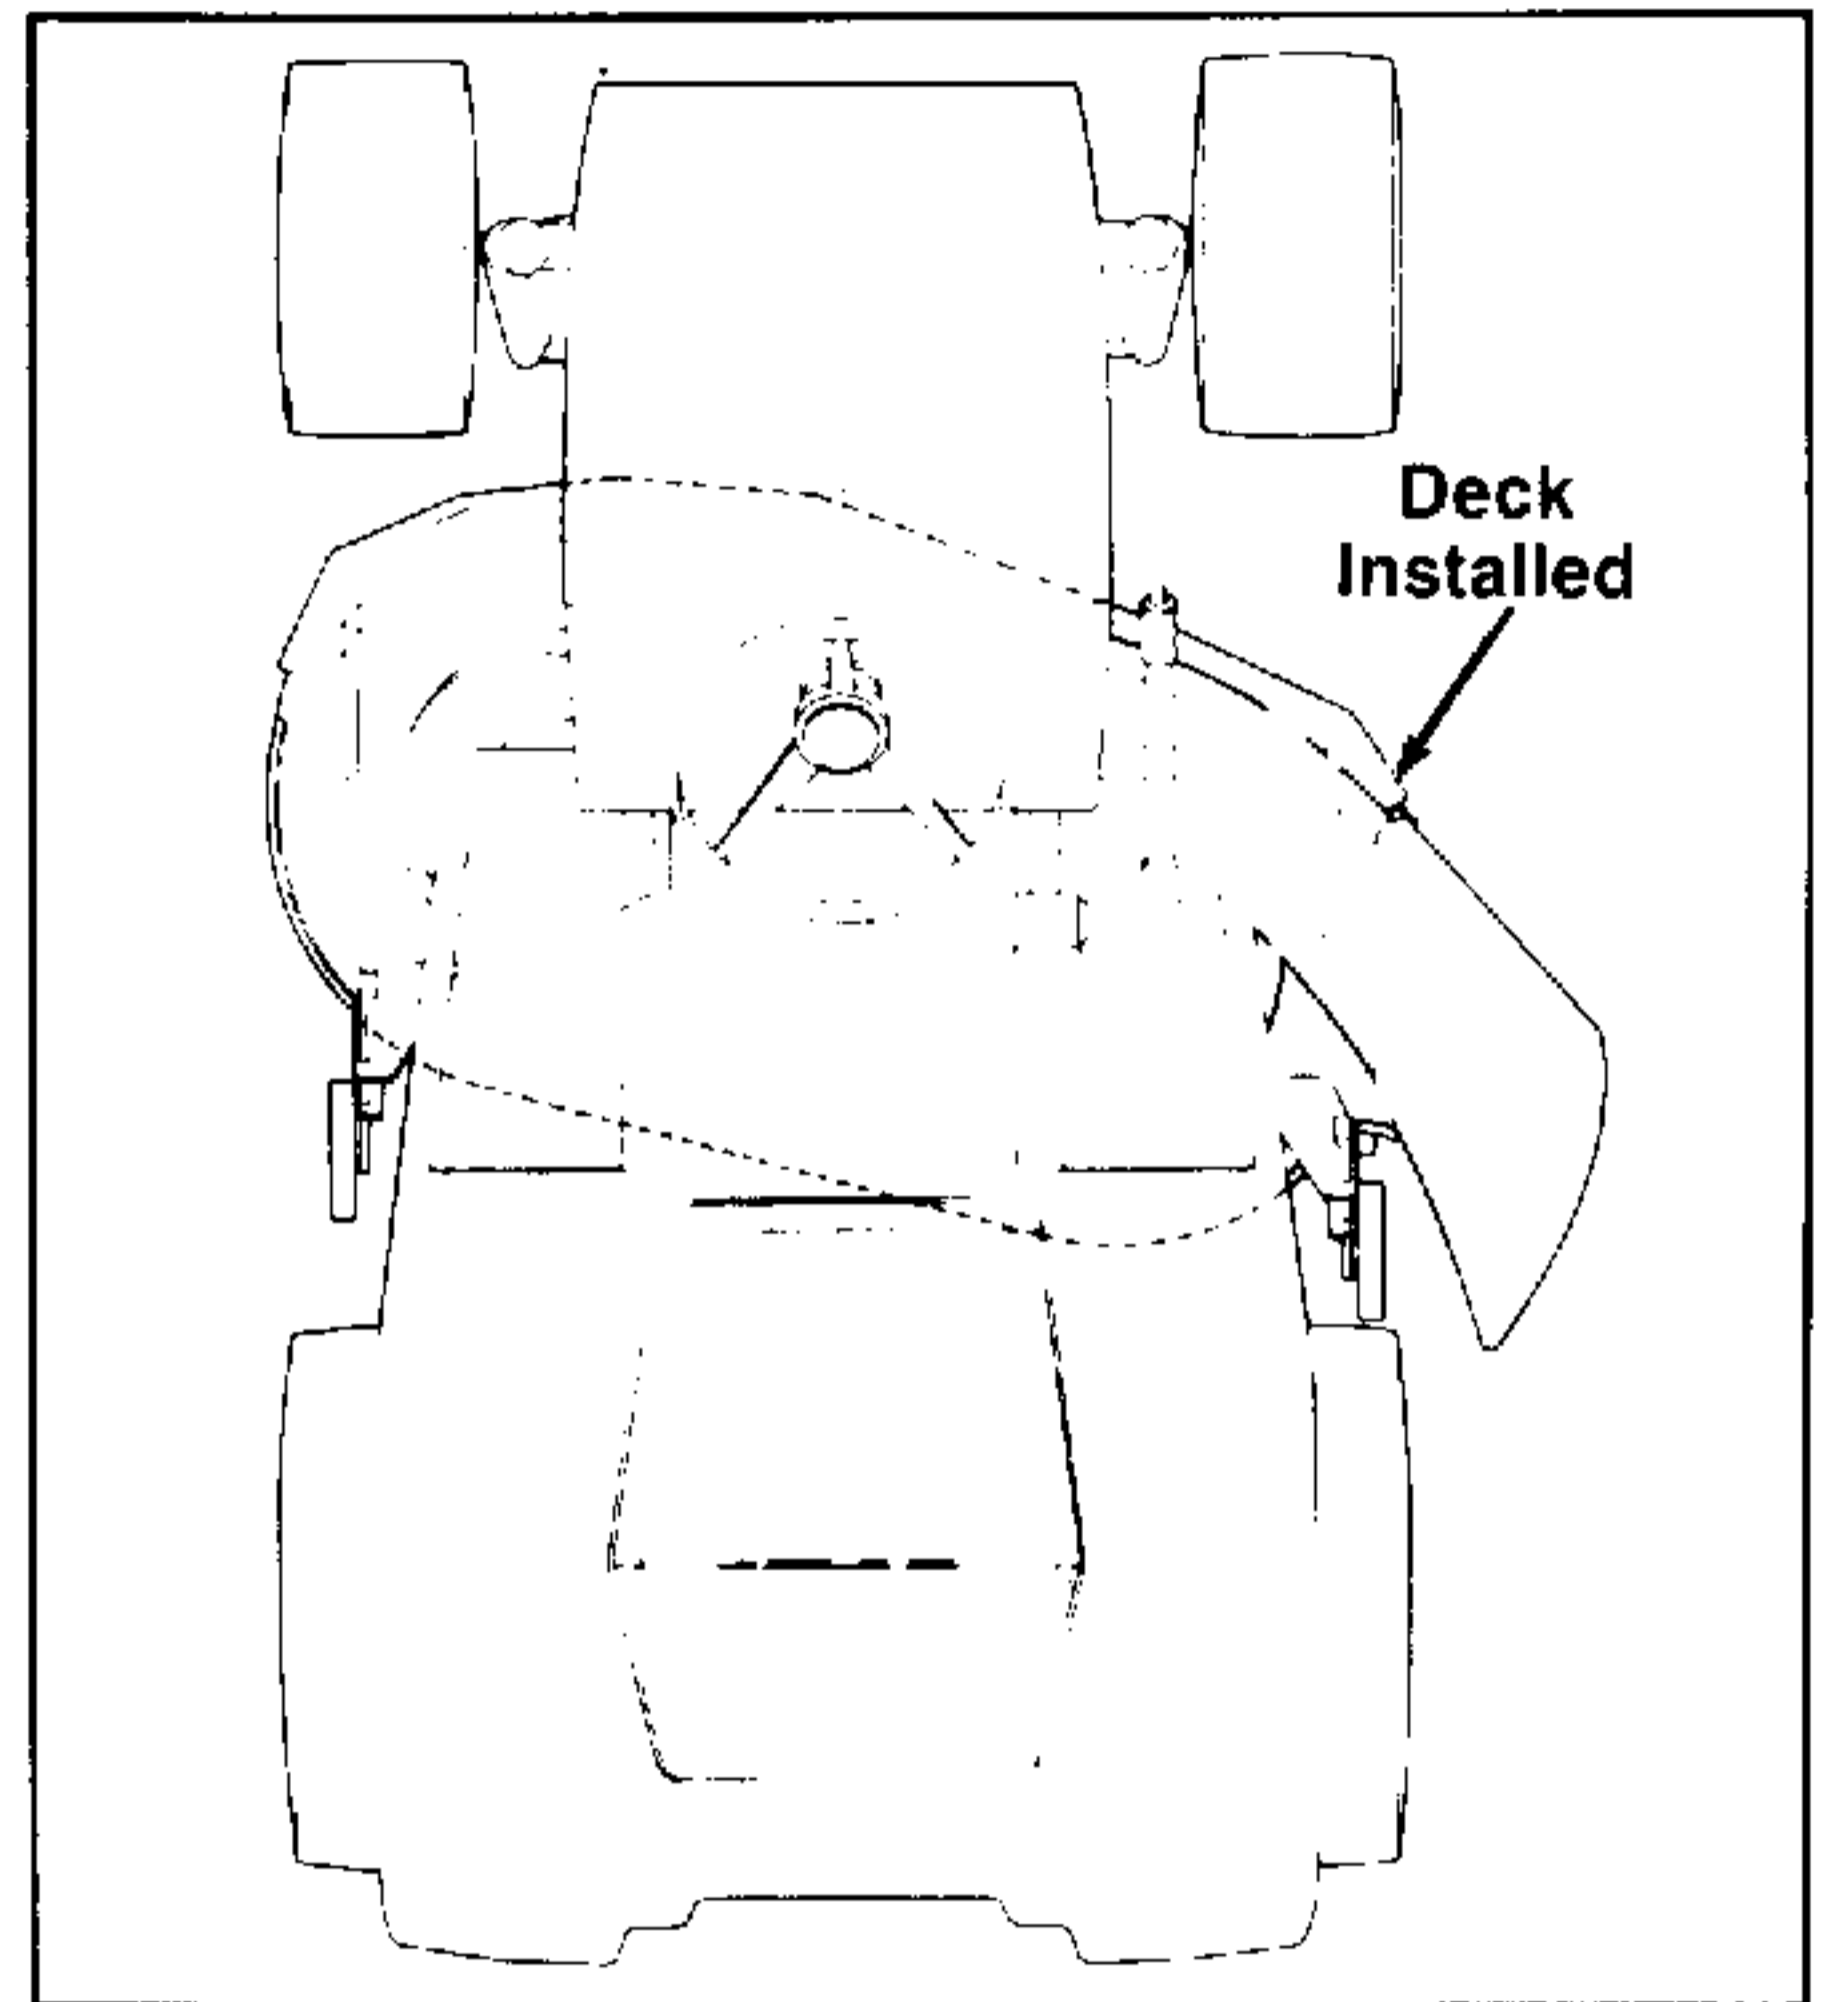
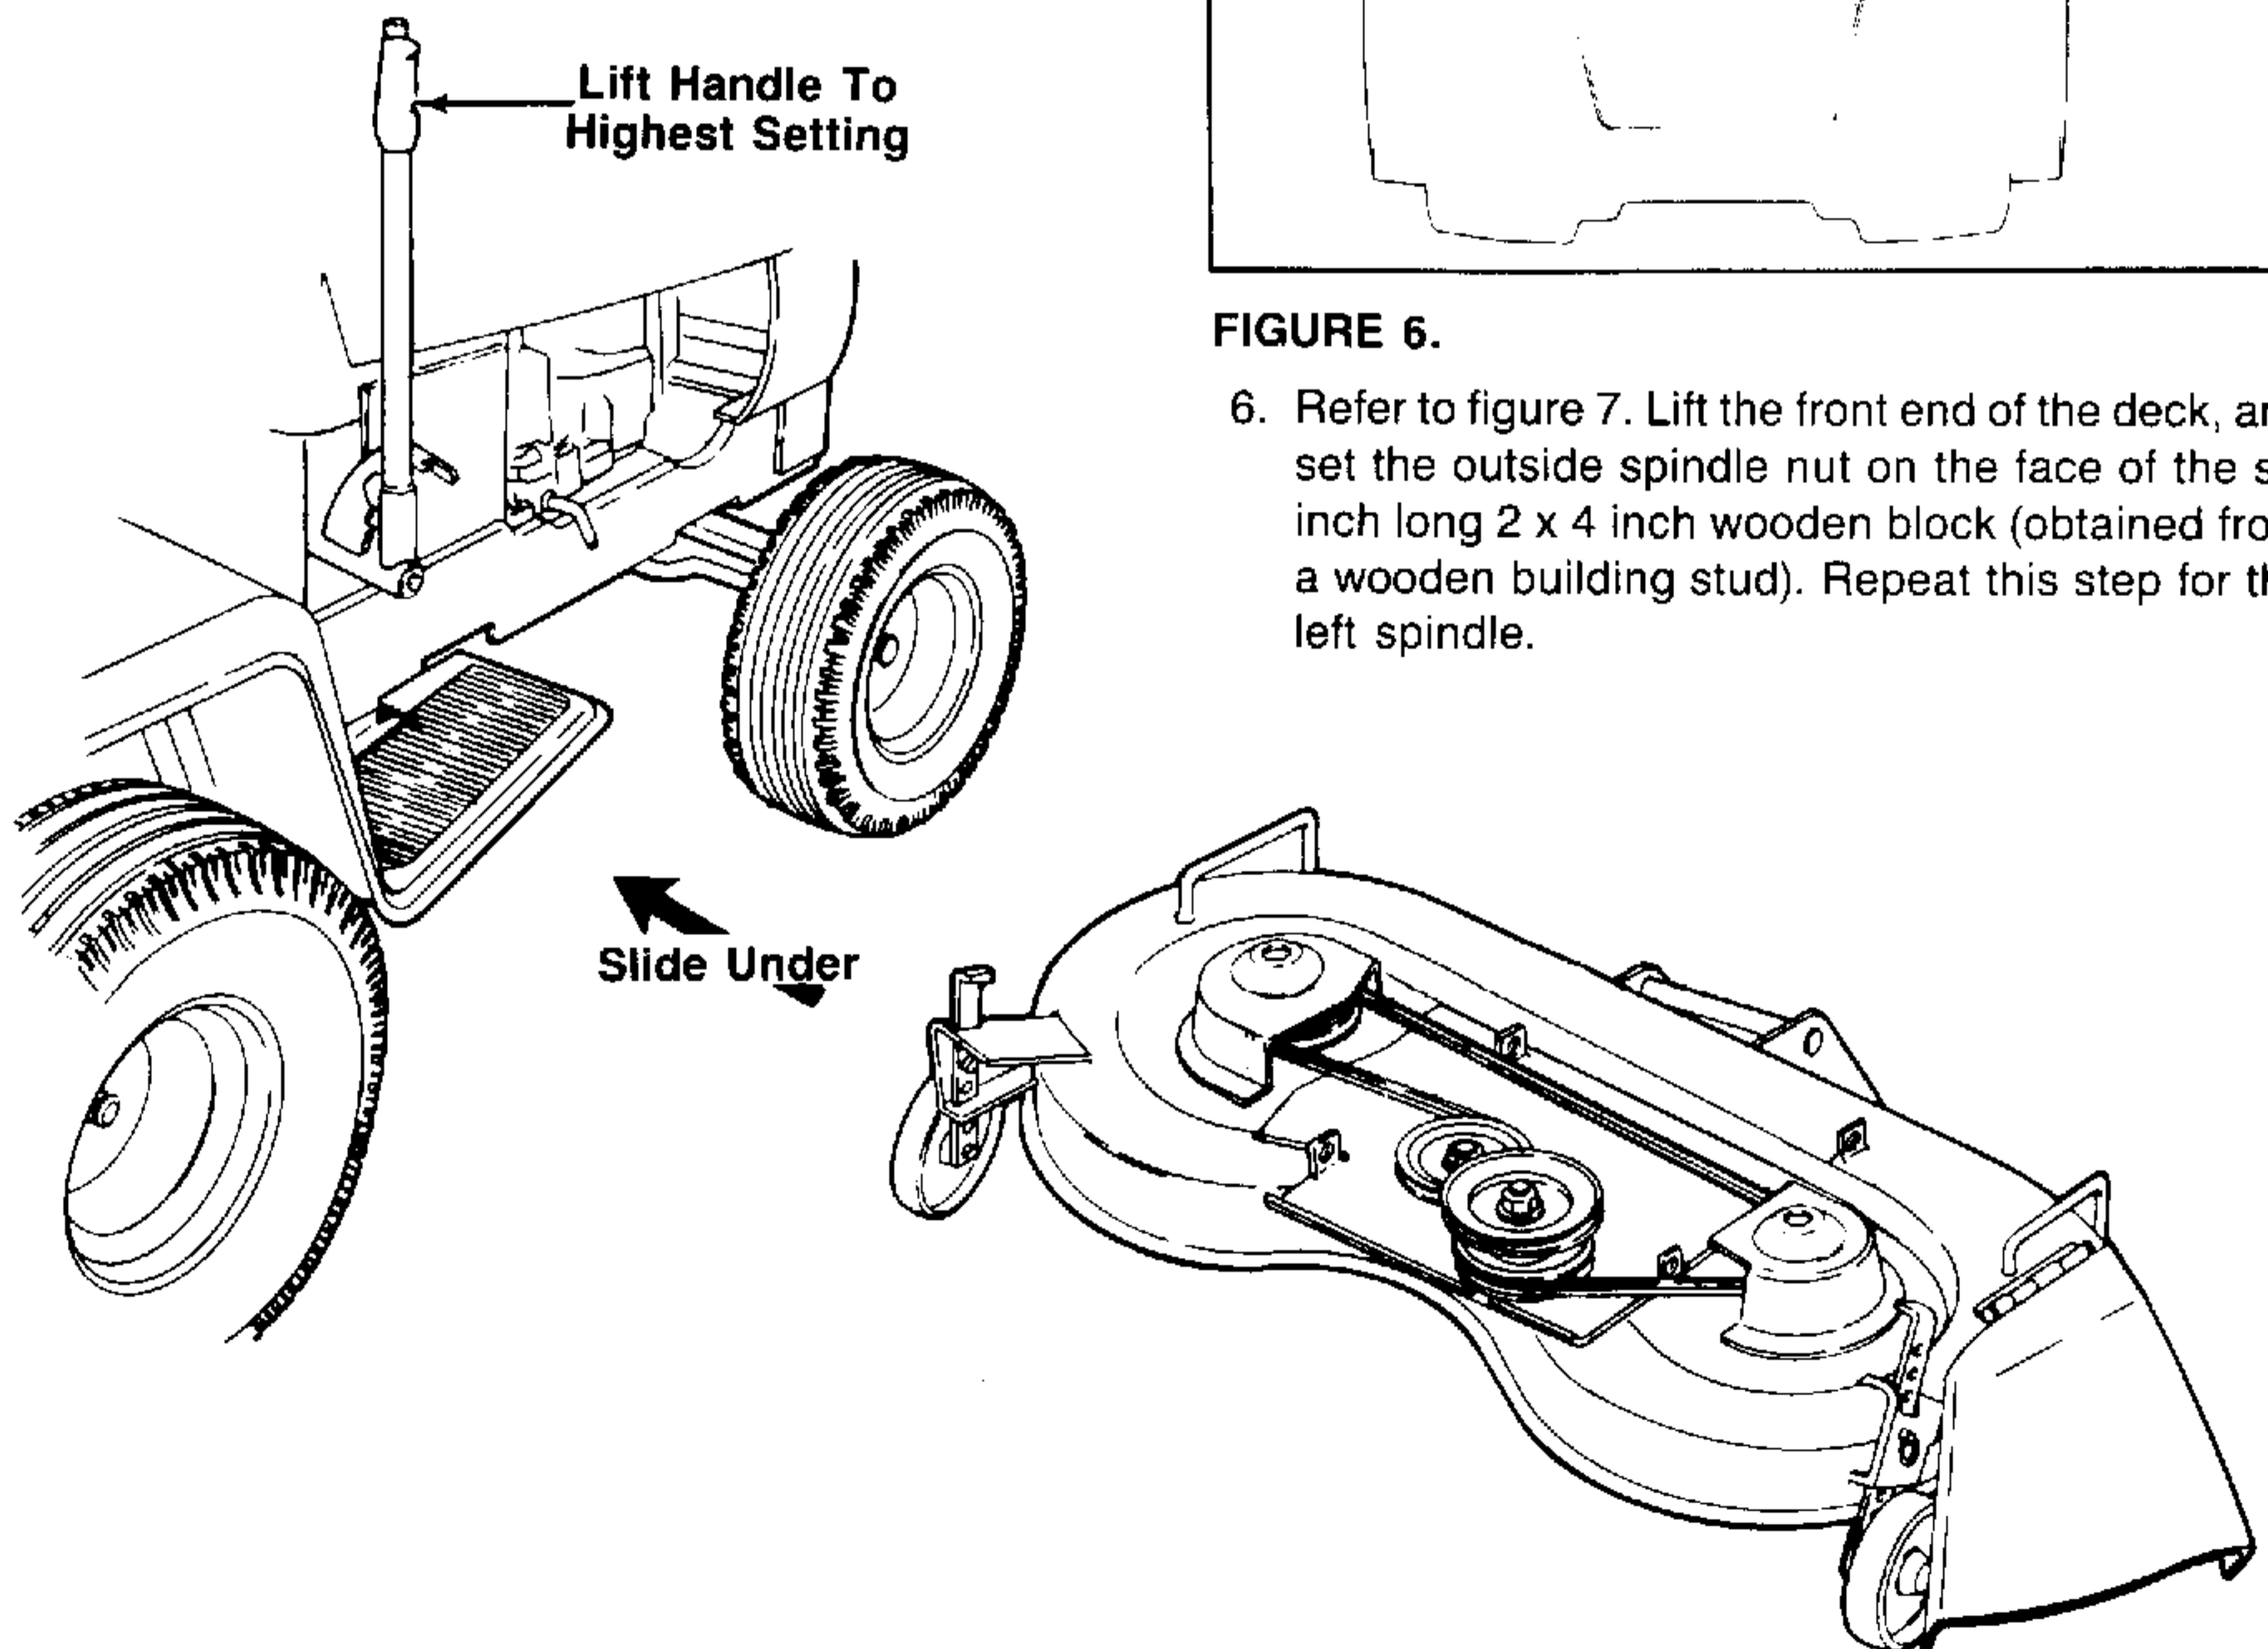

FIGURE 6.
FIGURE 5.
5. Raise the lift handle to its highest setting. Refer to figure 5 and place the deck on the right side of the tractor, with the front of the deck facing toward the front of the tractor. Slide the deck under the tractor until it is aligned with the tractor as illustrated in figure 6.